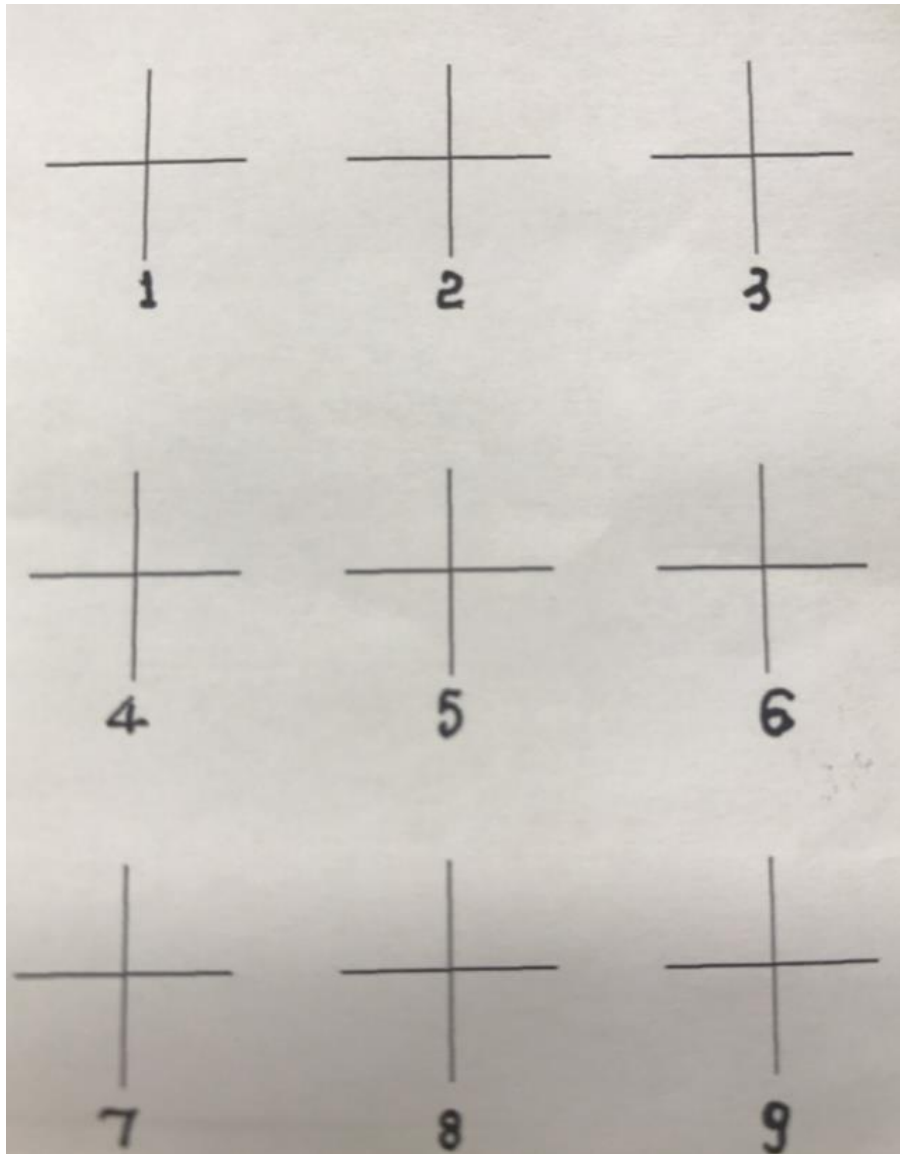

Figure 5.15 Calibration board
3. Place the calibration board on the conveyor which is in the vision search area and click **Conveyor pose** to record the current Encoder value. The calibration board is shown in Figure 5.15.